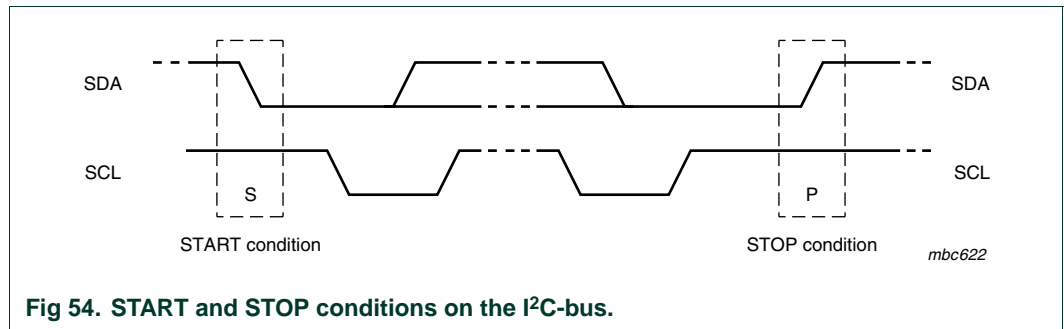

Fig 54. START and STOP conditions on the I2C-bus.
Both data and clock lines remain HIGH when the bus is not active. A HIGH-to-LOW transition on the data line, while the clock is HIGH, is defined as the START condition (S). When this occurs the bus becomes 'busy'. A LOW-to-HIGH transition on the data line while the clock is HIGH is defined as the STOP condition (P). This terminates data transfer and frees up the bus; see Figure 54.